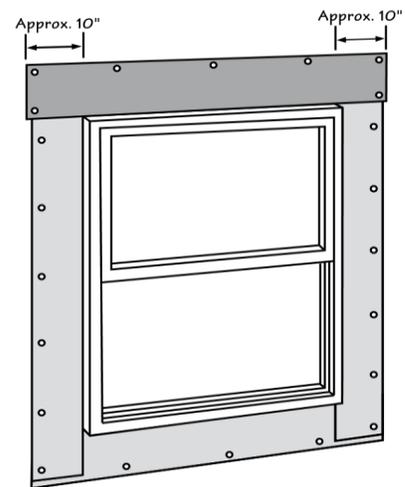

Figure 33.
- Apply a continuous bead of sealant to the nailing flange of the head in a manner that covers the nails and nail slots. Add an additional bead of sealant horizontally, in line with the top of the head flashing. Install the head flashing by pressing the bottom edge of the flashing into the sealant bead previously applied across the mounting flange. Extend the ends of the head flashing approximately 1" (25.4mm) beyond the jamb flashing at each end. Fasten the head flashing into place along the top edge (Fig. 33).